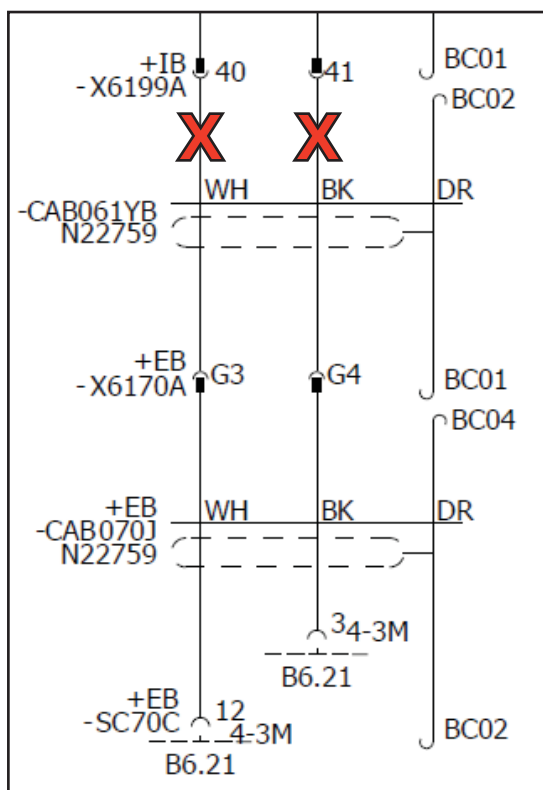

Figure 12 - Wires to be Cut and Insulated, and Sealing Plugs to be Installed on the +IB-X6199A Connector
- 1.21. Install a 562288 sealing plug in positions 40 & 41 of the +IB-X6199A connector. See Figure 12.
- 1.22. Cut the pins on the two removed wires (positions 40 (WH) & 41 (BK) of the +IB-X6199A connector). See Figure 12.